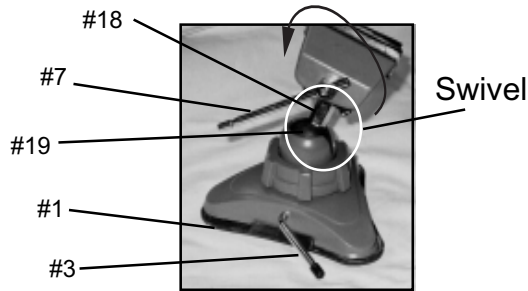

Figure 1
2. The Hobby Vise can adjust 180° vertically and 360° horizontally. The swivel of the Dome (#19) and Hex Shaft (#18) will move the Vise Front and Vise Back (#10 & #14) to the desired angle for better grip and workability. (See Figure 1)